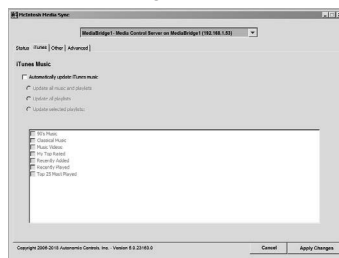

Figure 60
11. After the IP Address settings have been completed, click on the “iTunes” Tab for the iTunes Music Settings. Refer to figure 60.